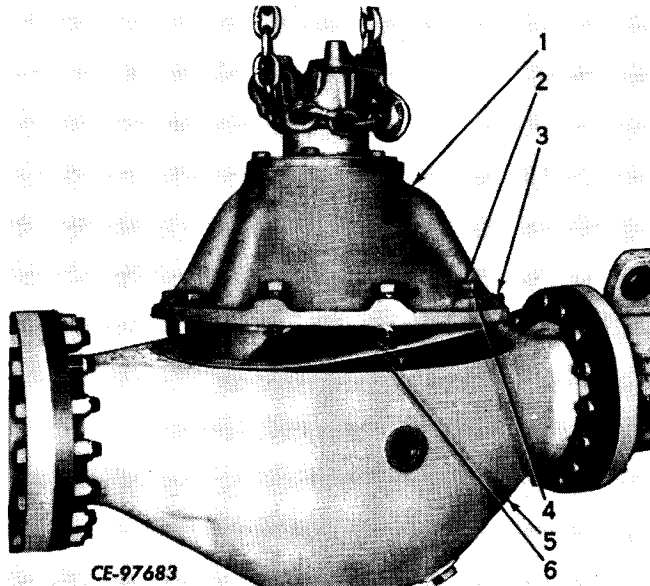

Figure 6-11
Remove cap screws (2, Fig. 6-11) and lock washers that secure differential assembly (1) to differential housing.